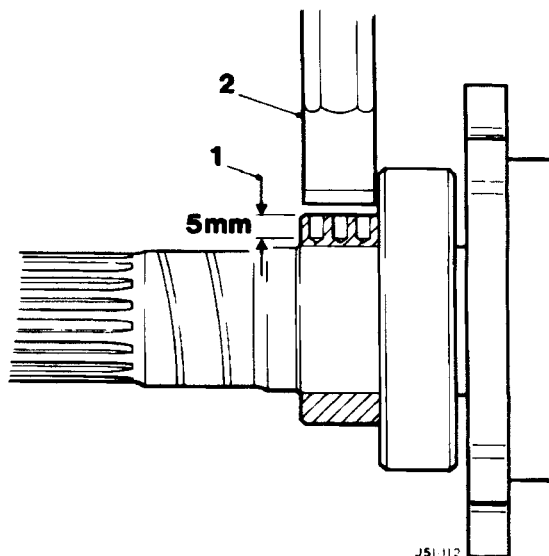

Fig. 1
- Remove fixings center bearing to crossmember (1 Fig. 1) and push drive shaft rear section forward to disengage from pinion spigot.